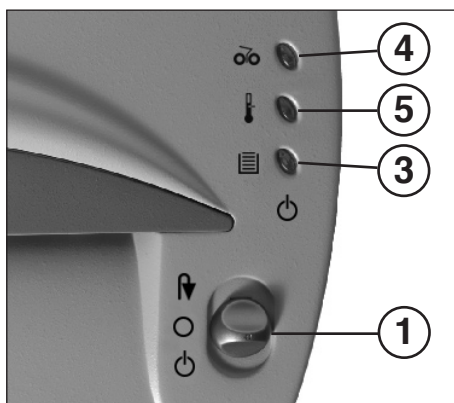

fig. 1
1 = Function switch (fig. 1)
3 = Pilot lamp (fig. 1)
4 = Pilot lamp „material jam“ (fig. 1)
5 = Pilot lamp „motor overload“ (fig. 1)
- Turn the function switch (1) (fig. 1) in position „“.
The pilot lamp (3) (fig. 1) lights up (green).
Please make sure that the shredder is switched off over night (Turn the function switch (1) (fig. 1) in position „O“).
- The pilot lamp (4) (fig. 1) lights up.
- Turn the function switch (1) (fig. 1) **briefly** to position „R“ (material will be released), then in position „O“.
- The pilot lamp (4) (fig. 1) goes out.
- Tear off the excess paper over the feed slot and then turn the function switch (1) (fig. 1) to position „O“.